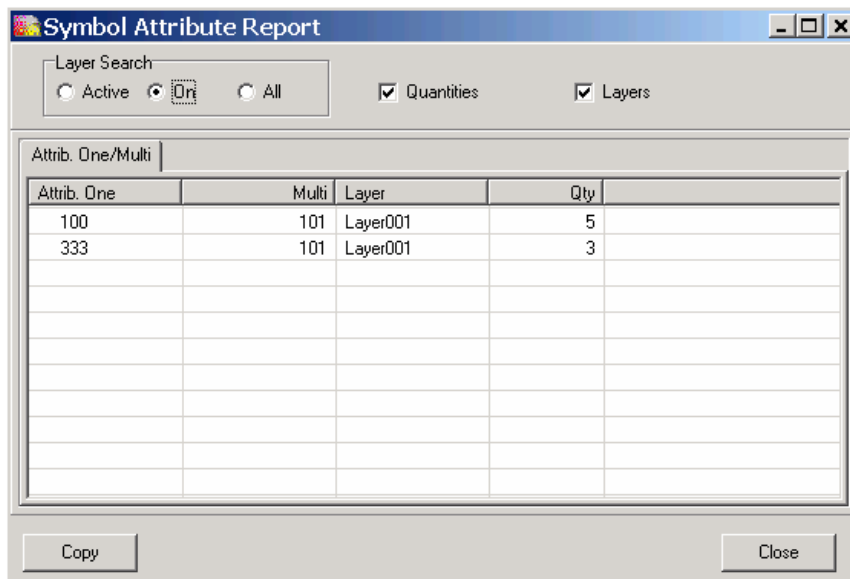

Figure 9.20: Symbol Attribute Report dialog box.
5. Click on Copy if you want to add the symbol attribute report to your clipboard. This allows you to paste the symbol attribute report into a drawing file or a document. For example, the report shown in Figure 9.20 was pasted into a word processing file to produce the following: